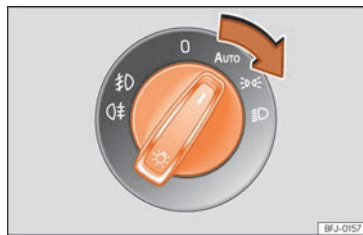

Fig. 69 Instrument panel: light panel.
- Turn on the ignition and turn the light switch to the desired position >>> **Fig. 69**: